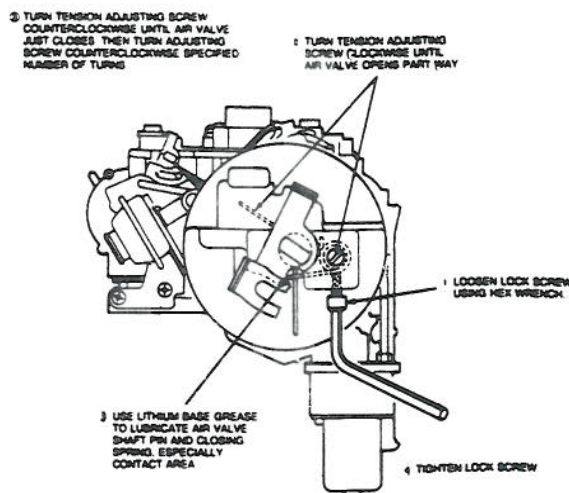

Fig. 20 Air valve spring adjustment. 1982-84 E2SE carburetor
1. Loosen lock screw, then turn adjusting screw clockwise until air valve is partially open, Fig. 20. On 1983-86 units, it may be necessary to remove the intermediate choke rod to gain access to the lock screw.